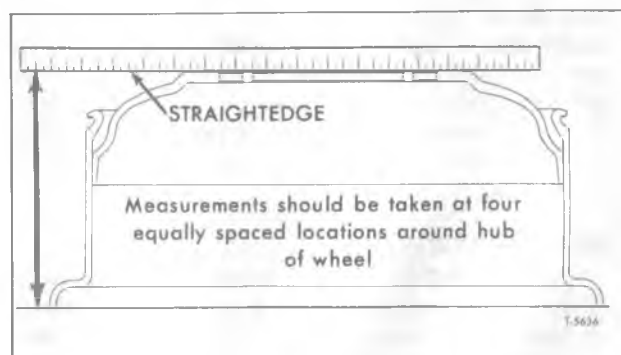

Figure 5—Typical Wheel Checking Diagram
7. A dismantled wheel may be checked for side wobble by placing a straight-edge on face or hub of wheel. Measure distance from straight-edge to edge of wheel rim, this should be checked at four equally spaced locations. If distance is the same at all positions wheel is not distorted (see fig. 5). A dismantled wheel may also be checked for radial, and lateral run-out if desired, by temporarily mounting it to a hub on vehicle. Follow the previous Steps 2, 3, 4, and 5.